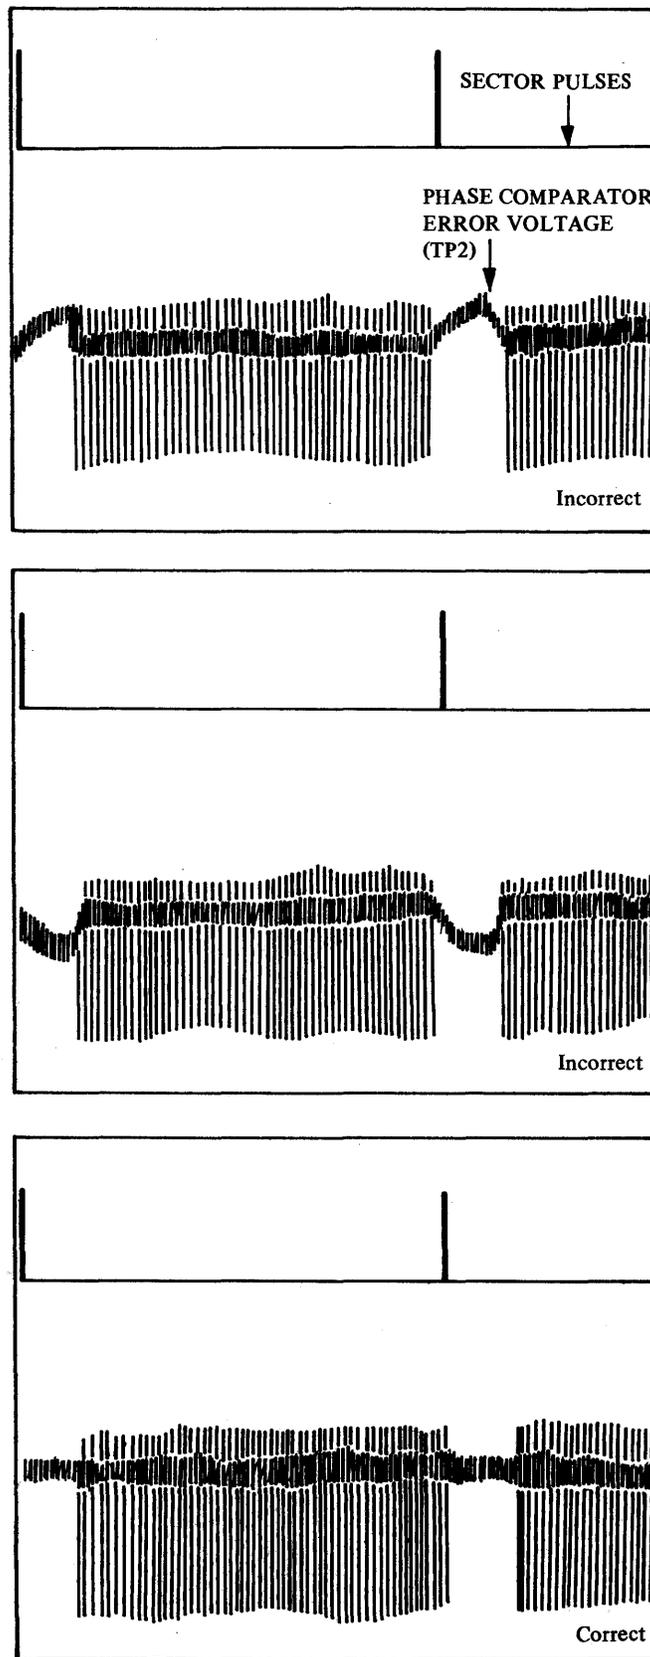

Figure 4-28. Data Discriminator Set-Up Using Processor
- 6. Observe the traces shown in figure 4-28. The first portion of the trace is when the exerciser is reading, and is therefore the Error Voltage obtained from comparing the VCO with the data (with an ac component). During the second portion, the exerciser has switched off and this is the Error Voltage obtained with the Phase Locked Loop at the centre of its tracking range.
6. Adjust the oscilloscope triggering to obtain the signal shown in figure 4-28. The signal may not be precisely synchronized, but will be sufficient to observe the necessary comparison. Use the sector pulses to locate the period of 45-95uS when RD ENABLE is turned off. This represents the Error Voltage at the centre of the Phase Locked Loop. The remainder of the signal is the Error Voltage obtained from the comparison of data and the VCO.